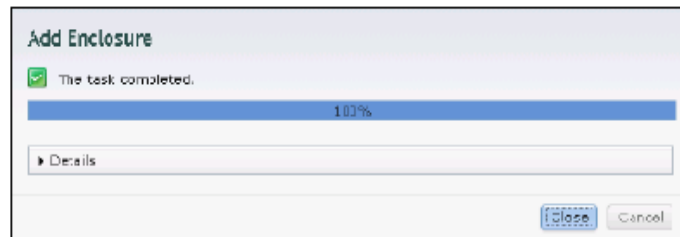

Figure 2-13 Adding an enclosure
7. An Add Enclosure pop-up window opens, as shown in Figure 2-13. Wait until the task is finished and then click **Close**.